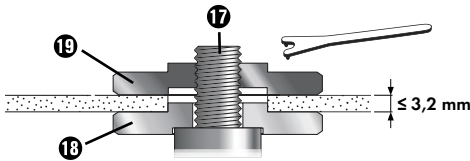

Fig. 1
**With thin grinding discs (see fig. 1)**